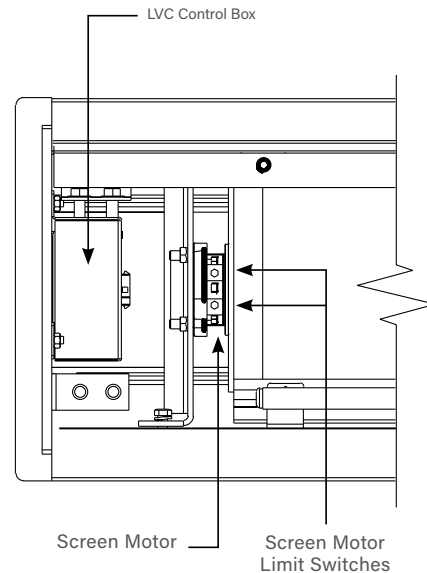

Figure 4
2. When the screen stops, turn the white "down" limit knob (Figure 4) one-quarter turn counterclockwise. Test by raising picture surface approximately two feet, then lower again. Repeat until desired picture surface position is attained.
3. Turn the white "down" limit switch (Figure 4) one-quarter turn clockwise. Test by raising picture surface approximately two feet, then lower again. Repeat until desired picture surface position is attained.